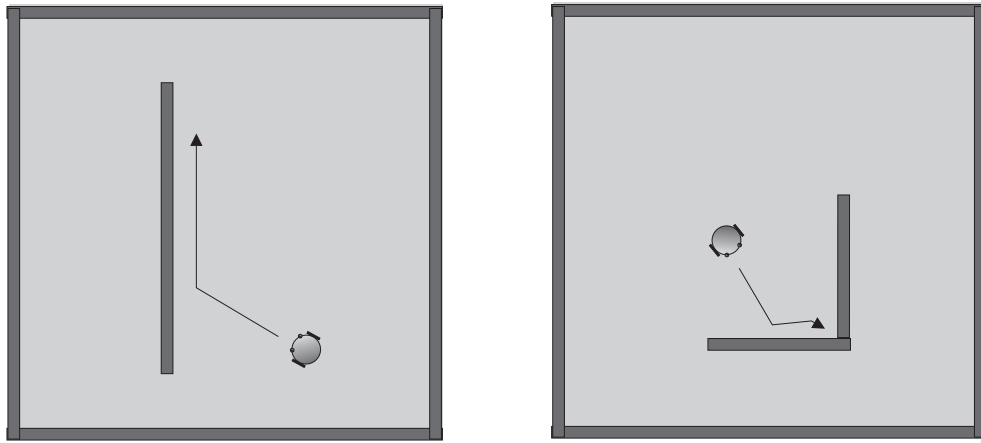

Figure 3: Illustration of the behaviors in problem 1.3.
**(a)** Use a behavioral representation of the kind above to generate the behavior *wall-following*. When placed in a arena, containing only walls (i.e. no other obstacles) the robot should first find a wall, and then follow it, as exemplified in the left panel of Fig. 3. No particular action need be taken when the robot reaches the end of the wall (i.e. you do *not* need to implement collision avoidance). (1p)
**(b)** Again using an **if-then-else-representation**, generate a behavior for *corner-positioning* (you may, of course, start from the behavior generated in (a)). In this problem, the robot should find a wall, follow it until it encounters a perpendicular wall (assuming that walls are placed in a perpendicular fashion in the arena), and *then* adjust its heading so that the front of the robot points directly towards the corner, i.e. at a 45 degree angle (or as close as possible) to either wall. The behavior is illustrated in the right panel of Fig. 3. (2p)